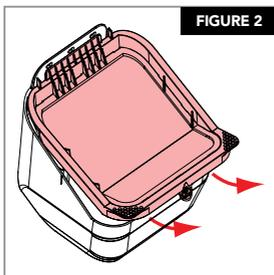

FIGURE 2
STEP 2 Using the quick release tabs remove the Cleanshield™ screen by lifting it up and then out. (FIGURE 2)
STEP 1 Using the quick release tabs remove the Cleanshield™ screen by lifting it up and then out. (FIGURE 2)